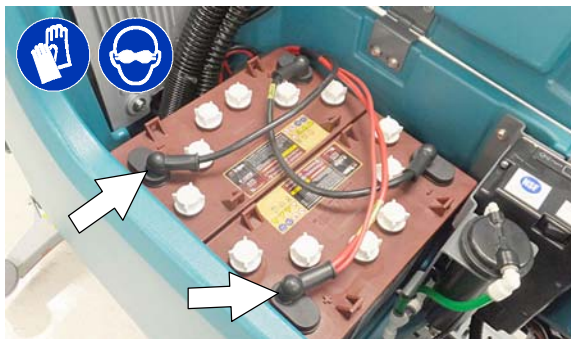

FIG. 111
1. Disconnect battery cables (Figure 111).